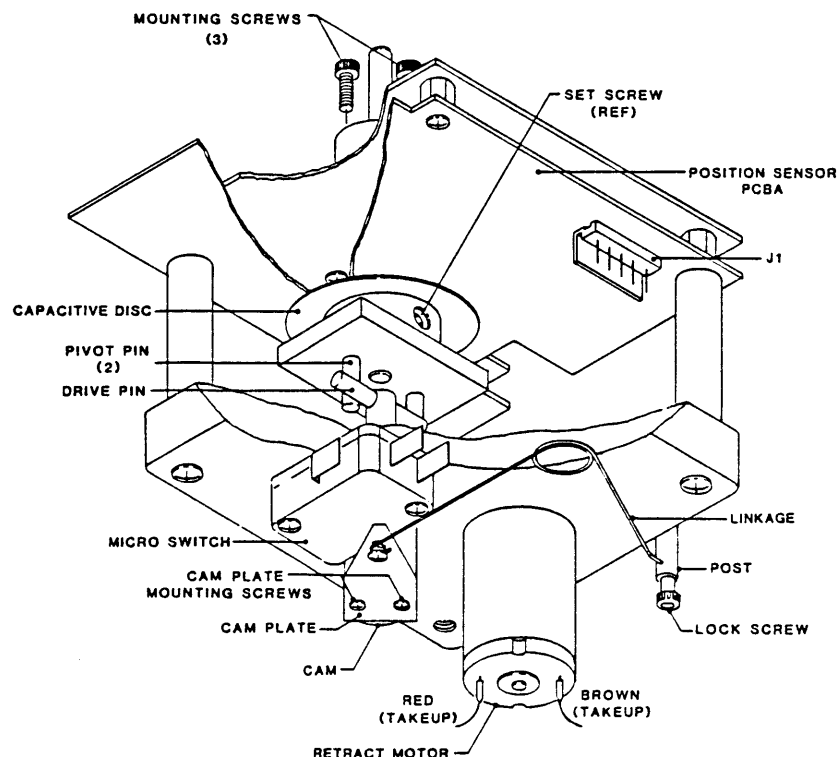

Figure 5-8. Takeup Arm Retract and Pivot Sensor Assembly
5.3.10 RETRACT AND PIVOT SENSOR ASSEMBLIES, TAKEUP-ARM AND SUPPLY-ARM (Fig. 5-8)